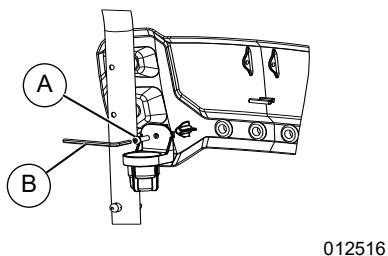

Figure 2-3. Accessory Nozzle Holder
3. See Figure 2-3. If accessory nozzles (soap blaster or turbo nozzle) are included attach accessory nozzle holder to either side of billboard using supplied screw (A) and hex key (B).